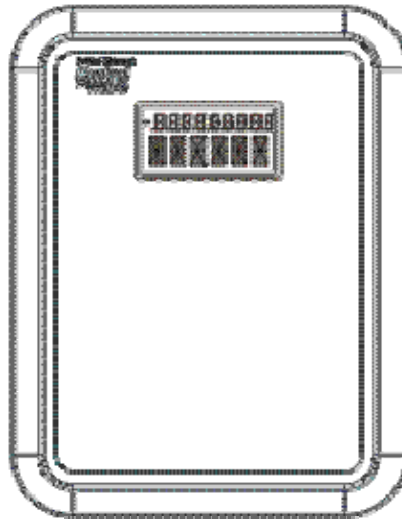

Figure 2-14. Display with No Keypad
- Display only (no keypad) – (see *Figure 2-14*)